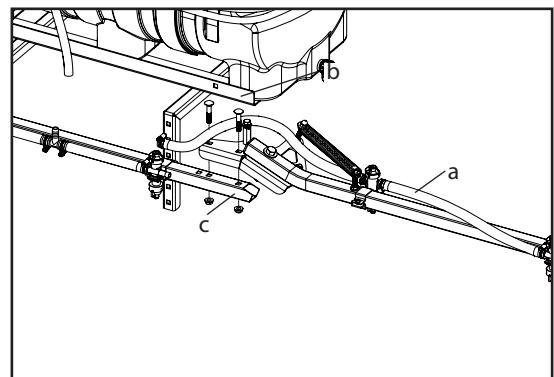

Figure 4: Boom wing mounting
2. Position the right boom wing (a) as shown and insert the 3/8" x 2" bolts (b) through the holes in the boom wing hinge and the center frame. Fasten the bolts with 3/8" flange nuts (c) (Figure 4).